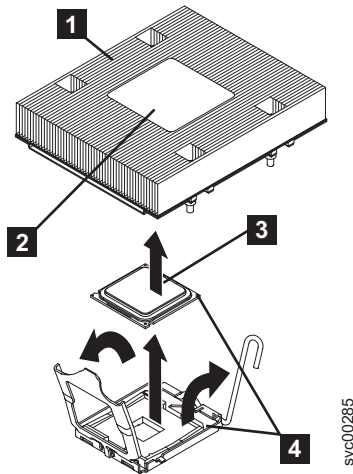

Figure 256. Removing the heat sink from the microprocessor
3. Remove the heat sink (**1** in Figure 256). Loosen two captive screws on alternate sides of the heat sink fully before loosening the other two captive screws. (This helps to break the bond between the heat sink and the microprocessor.) After the captive screws are loosened, remove the heat sink.